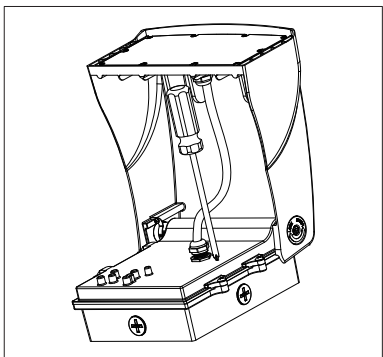
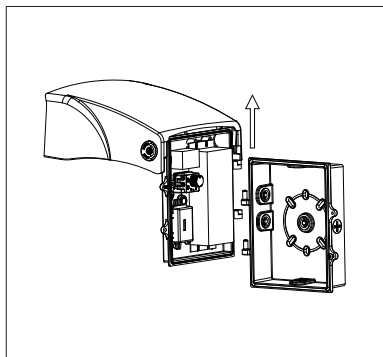

Figure 3
Figure 4
**STEP 2:** Use a screwdriver to remove the screws on the driver box cover and separate the driver box from the radiator (Figure 3 & Figure 4)